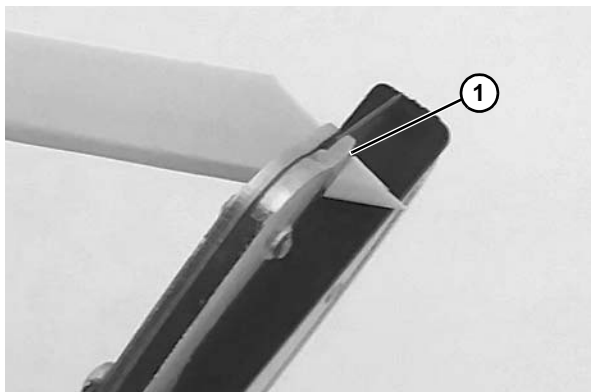

Figure 34
1. Cut both slide rail ends at a 35° angle. The beginning of a new slide rail (in the direction of travel) must cut back at a small angle (**Figure 34, item 1**).